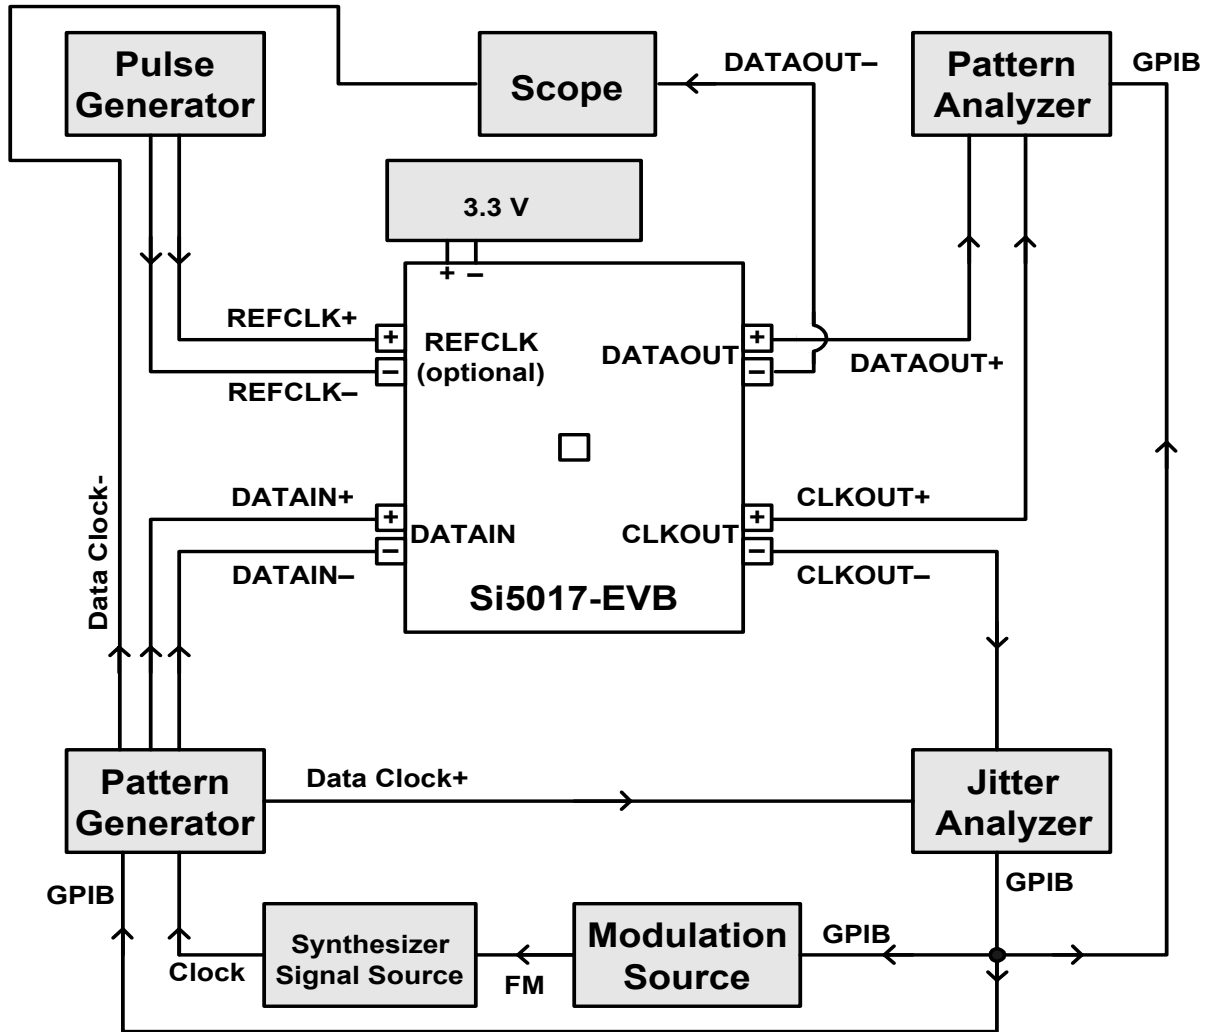

Figure 2. Test Configuration for Jitter Tolerance, Transfer, and Generation
The three critical jitter tests typically performed on a CDR device are jitter transfer, jitter tolerance, and jitter generation. By connecting the Si5017 Evaluation Board as shown in Figure 2, all three measurements can be easily made.
**Jitter Tolerance:** Referring to Figure 2, this test requires a pattern generator, a clock source (synthesizer signal source), a modulation source, a jitter analyzer, a pattern analyzer, and a pulse generator (all unconnected high-speed outputs must be terminated to 50  $\Omega$ ). During this test, the Jitter Analyzer directs the Modulation Source to apply prescribed amounts of jitter to the synthesizer source. This “jitters” the pattern generator timebase which drives the DATAIN ports of the CDR. The Bit-Error-Rate (BER) is monitored on the Pattern Analyzer. The modulation (jitter) frequency and amplitude is recorded when the BER approaches a specified threshold. The Si5017 limiting amplifier can also be examined during this test. Simply lower the amplitude of the incoming data to the minimum value typically expected at the limiting amplifier inputs (typically 10 mVPP for the Si5017 device).
**Jitter Generation:** Referring to Figure 2, this test requires a pattern generator, a clock source (synthesizer signal source), a jitter analyzer, and a pulse generator (all unconnected high-speed outputs must be terminated to 50  $\Omega$ ). During this test, there is no modulation of the Data Clock, so the data that is sent to the CDR is jitter free. The Jitter Analyzer measures the RMS and peak-to-peak jitter on the CDR CLKOUT. Thus, any jitter measured is jitter generated by the CDR.
**Jitter Transfer:** Referring to Figure 2, this test requires a pattern generator, a clock source (synthesizer signal source), a modulation source, a jitter analyzer, and a pulse generator (all unconnected high-speed outputs must be terminated to 50  $\Omega$ ). During this test, the Jitter Analyzer modulates the data pattern and data clock reference. The modulated data clock reference is compared with the CLKOUT of the CDR. Jitter on CLKOUT relative to the jitter on the data clock reference is plotted versus modulation frequency at predefined jitter amplitudes.